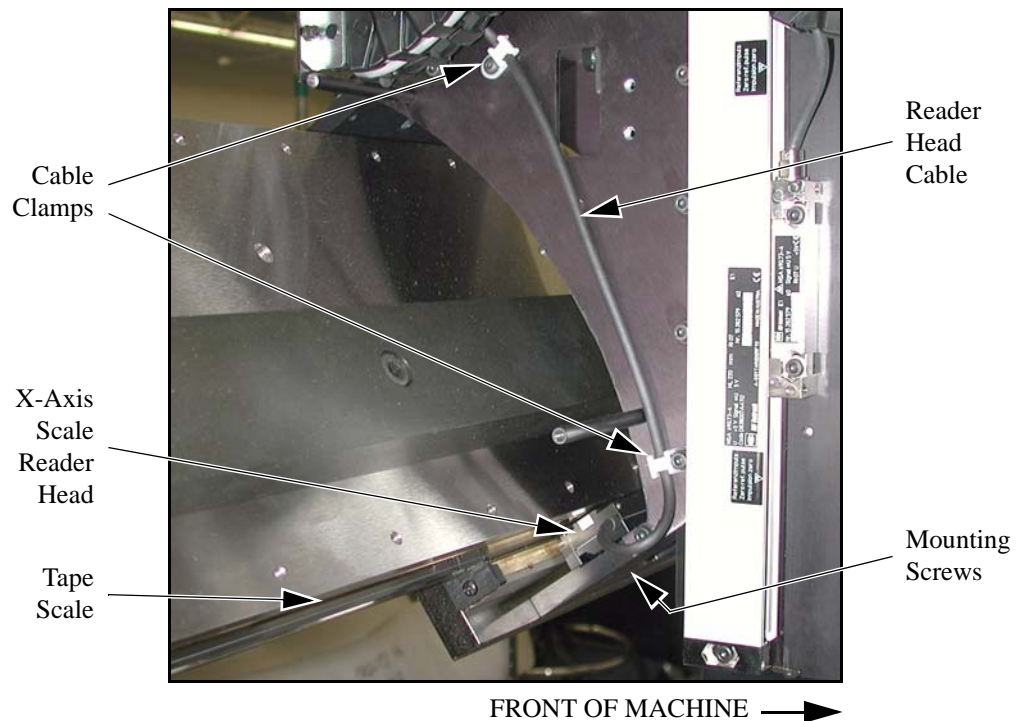

Figure 9-10 Removing the X-Axis Reader Head
5. Use a 2.5 mm Allen wrench to remove the cable clamps on the left side of the Z-axis assembly (see Figure 9-10).